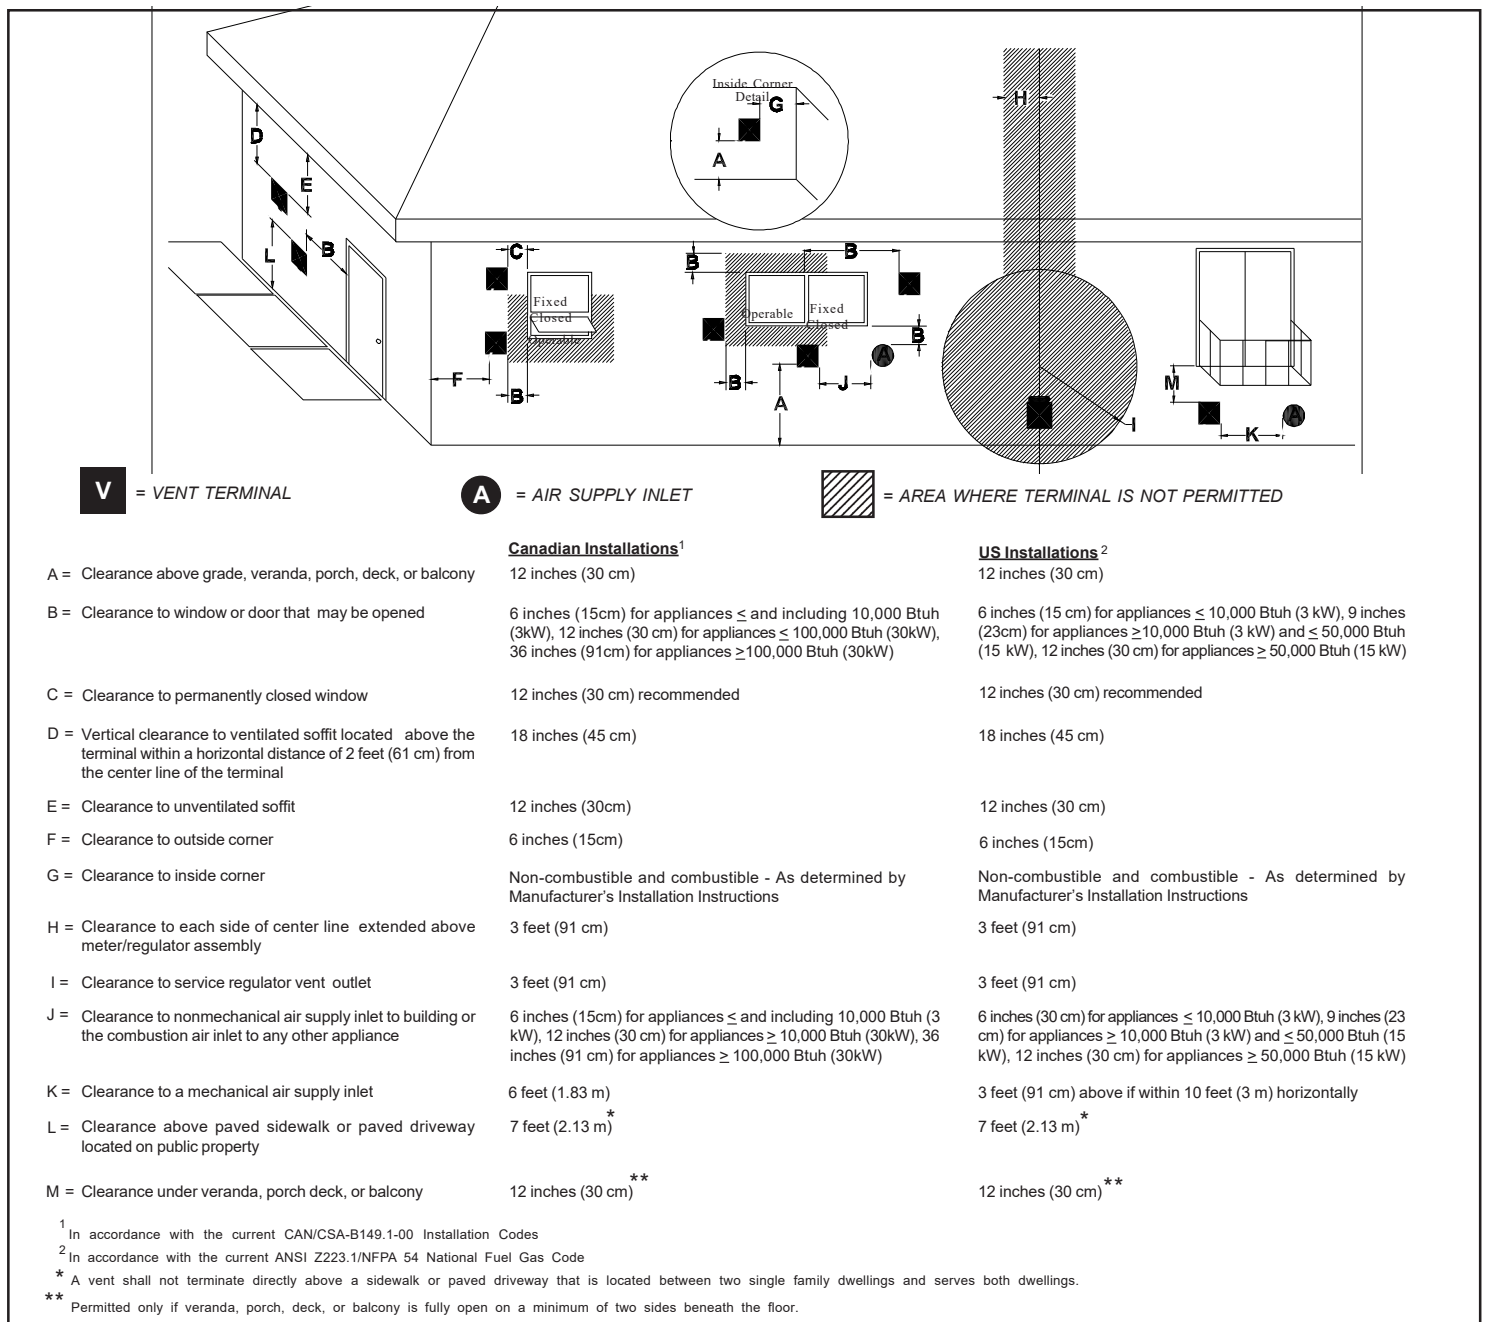

Figure 8. Side Wall Vent Termination Requirements
1) Determine the appliance location. Refer to the Appliance Manufacturer's installation instructions for clearance to combustible requirements, termination options, number of elbows, maximum length, etc. then position the appliance and plan vent routing accordingly. Consider locating the appliance in a place where there will be no interference with wall studs, electrical wiring, conduit, plumbing pipe, or other obstructions. The termination should be located at least 12" above grade, remain above the snow line in geographical areas that accumulate snow and be away from traffic areas such as walkways if it is less than 7' high (**See Figure 8 for more detail**).